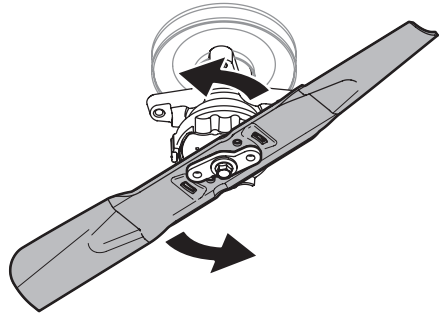

Figure 44
4. While holding the collar in the upward position, rotate the blade counter-clockwise to free it from the collar (Figure 44).